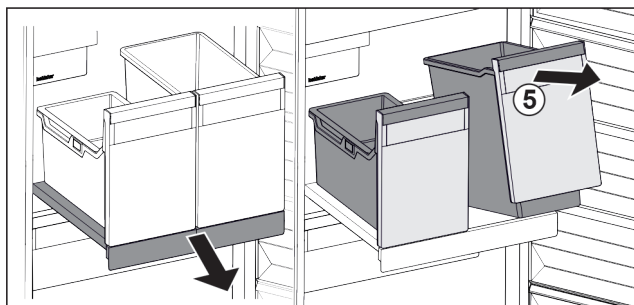

Fig. 31
- ▶ Lift the container Fig. 31 (5) at the front.